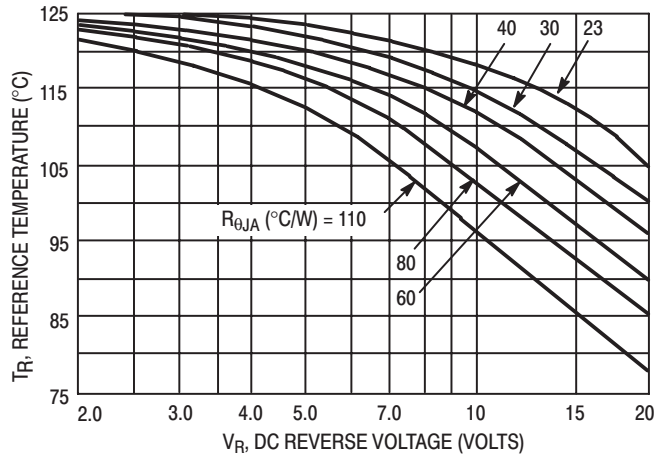

Figure 1. Maximum Reference Temperature 1N5817
Figures 1, 2, and 3 permit easier use of equation (1) by taking reverse power dissipation and thermal runaway into consideration. The figures solve for a reference temperature as determined by equation (2).
Inspection of equations (2) and (3) reveals that  $T_R$  is the ambient temperature at which thermal runaway occurs or where  $T_J = 125^\circ\text{C}$ , when forward power is zero. The transition from one boundary condition to the other is evident on the curves of Figures 1, 2, and 3 as a difference in the rate of change of the slope in the vicinity of  $115^\circ\text{C}$ . The data of Figures 1, 2, and 3 is based upon dc conditions. For use in common rectifier circuits, Table 1 indicates suggested factors for an equivalent dc voltage to use for conservative design, that is: